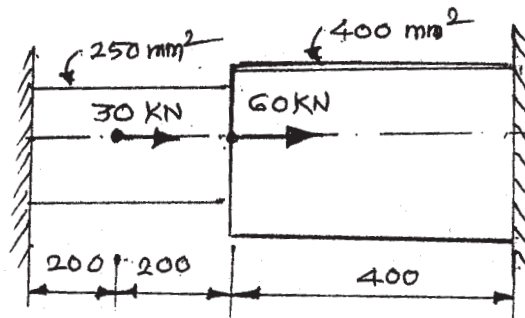

Fig 10
- b) Consider the bar shown in fig. 10. Determine the nodal displacements, element stresses and reactions, if the temperature rises by  $60^{\circ}\text{C}$ . Assume modulus of elasticity for the complete bar as 200 GPa and coefficient of thermal expansion as  $12 \times 10^{-6}/^{\circ}\text{C}$ . [12]